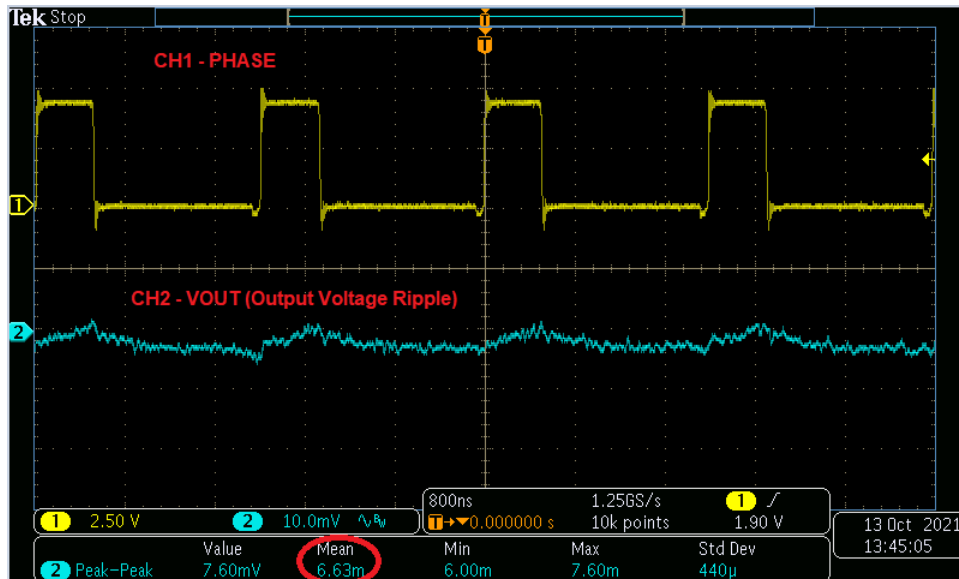

Figure 4-2. Output Voltage Ripple VIN = 5 V, VOUT = 1 V, IOU = 18 A
Display CH1 (PH) and CH2 (VOUT) [AC coupled, BW = 20 MHz] on oscilloscope to monitor the switching phase node and the output voltage ripple as shown in Figure 4-2.